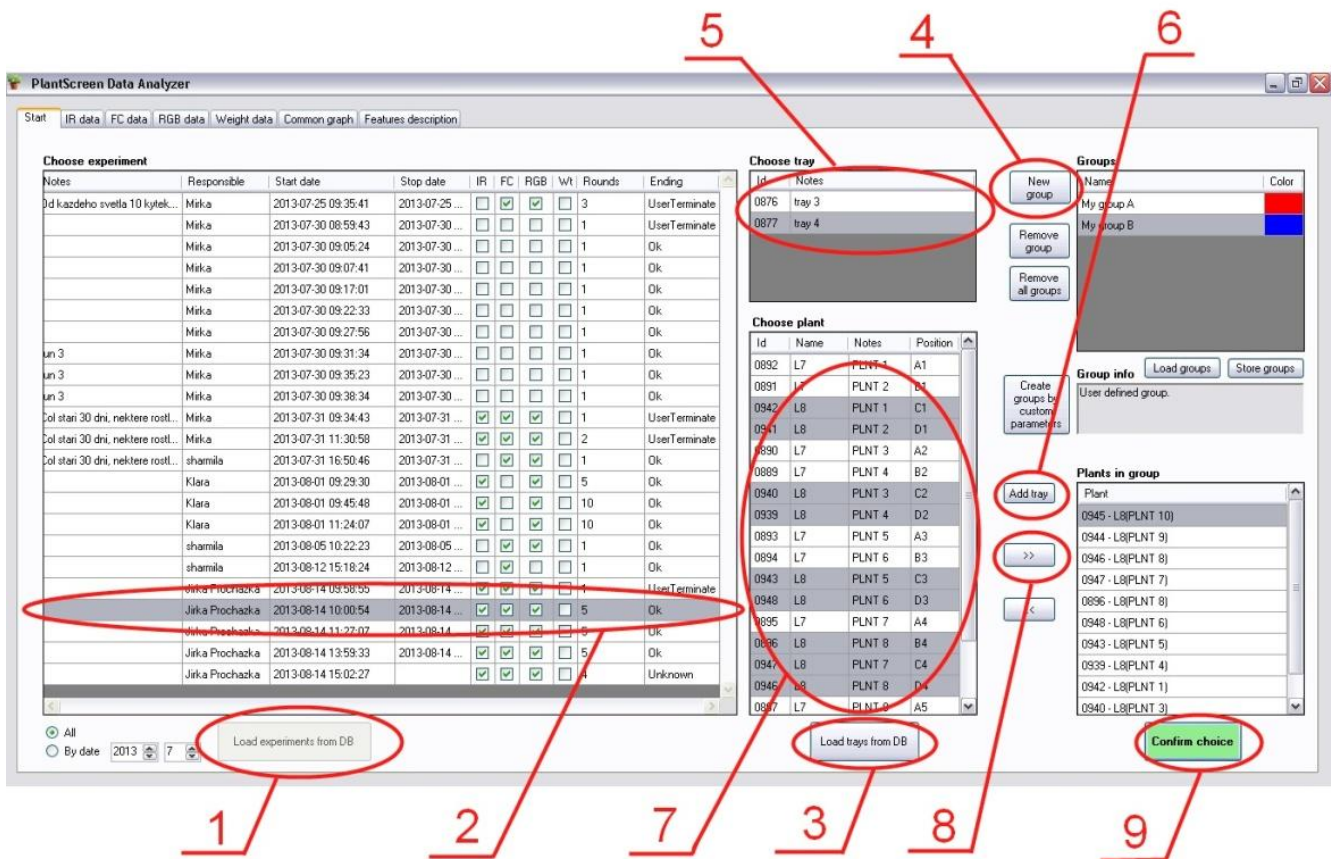

Fig. 17
- Go to tab “Start” (Fig. 17)
- o Load experiments from DB (Fig. 17, 1)
- o Select experiment (Fig. 17, 2)
- o Load trays (Fig. 17, 3)
- o Create new group and select it (Fig. 17, 4)
- o Select tray with id 0876 (Fig. 17, 5)
- o Add tray to group (Fig. 17, 6)
- o Select tray with id 0877 (Fig. 17, 5)
- o Select plants named L8 (Fig. 17, 7)
- o Add plants to group (Fig. 17, 8)
- o Confirm choice (Fig. 17, 9)
- o Show graph with feature Perimeter (fig. 17, 2)
- o Confirm the group choice by clicking the button “Confirm choice” (Fig. 17, 9)